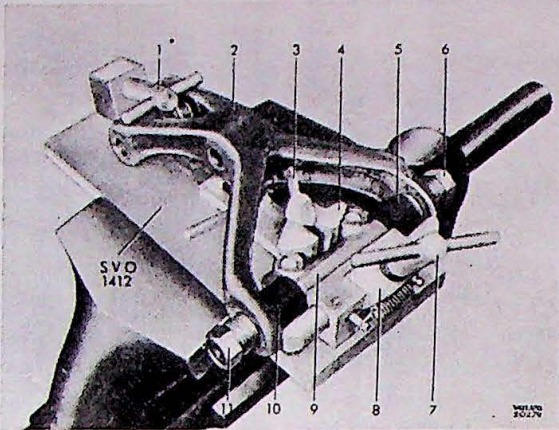

Fig. 15.
1. Fit rubber seals (5 and 10, fig 15) at pivot shaft ends (9).
2. Insert pivot shaft into control arm (2) and mount same on fixture SVO 1412.
3. Push retainer (4) over pivot shaft (9) and lock it with wing nut (3).